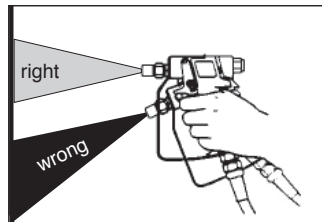

Fig. 13: Spray angle
- Hold the spray gun at a right angle (90°) to the area to be coated. If the spray gun is held at a different angle, the coating becomes irregular and blotchy (see Fig. 13).